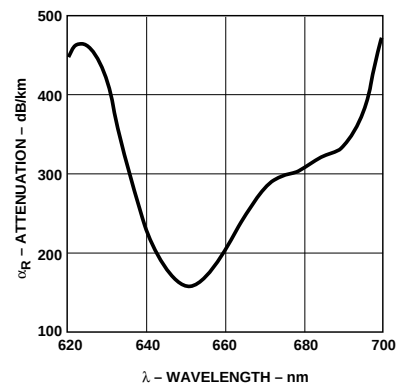

Figure 1. Typical POF Attenuation vs. Wavelength.
| Reference Attenuation        | Standard Cable, Type "R" | $\alpha_R$ | 0.12 | 0.19                | 0.24 | dB/m | Source is 650 nm, 0.5 NA monochrometer,$\ell = 50$ metersNote 7, Figure 1 |
7. Note that  $\alpha_R$  rises at the rate of about  $0.0067$  dB/ $^\circ\text{C}$ , where the thermal rise refers to the LED temperature changes above  $25^\circ\text{C}$ . Please refer to Figure 1 which shows the typical plastic optical fiber attenuation versus wavelength at  $25^\circ\text{C}$ .